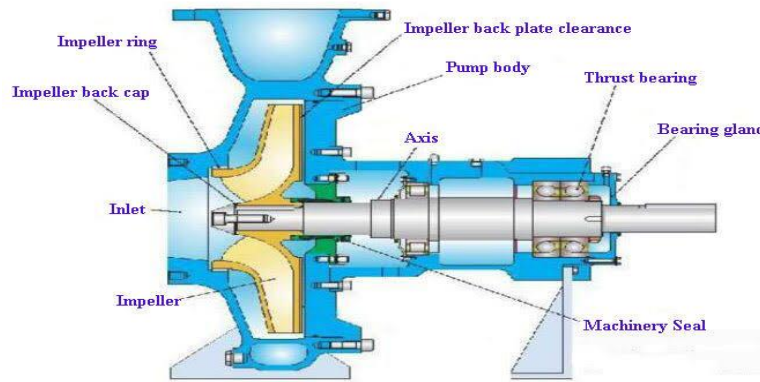

Fig.11: Single stage reciprocating pump
12.1 Analyze the operational efficiency and characteristics of a single-stage centrifugal pump under varying conditions i.e., 1/4th, 1/2th, 3/4th, and full opening of flow rate and head. In fig 11
12.2 Calculate the overall efficiency of single stage centrifugal pump. The testing apparatus are shown in fig. 11